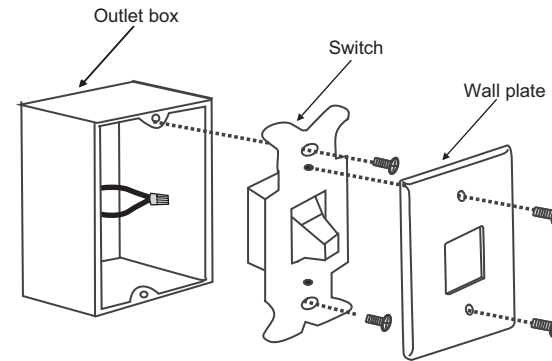

Fig. 21
Step 1. Remove the existing wall plate and the old switch from the wall outlet box. Wire nut the BLACK leads (hot) together and push back inside the outlet box. (Fig. 21)